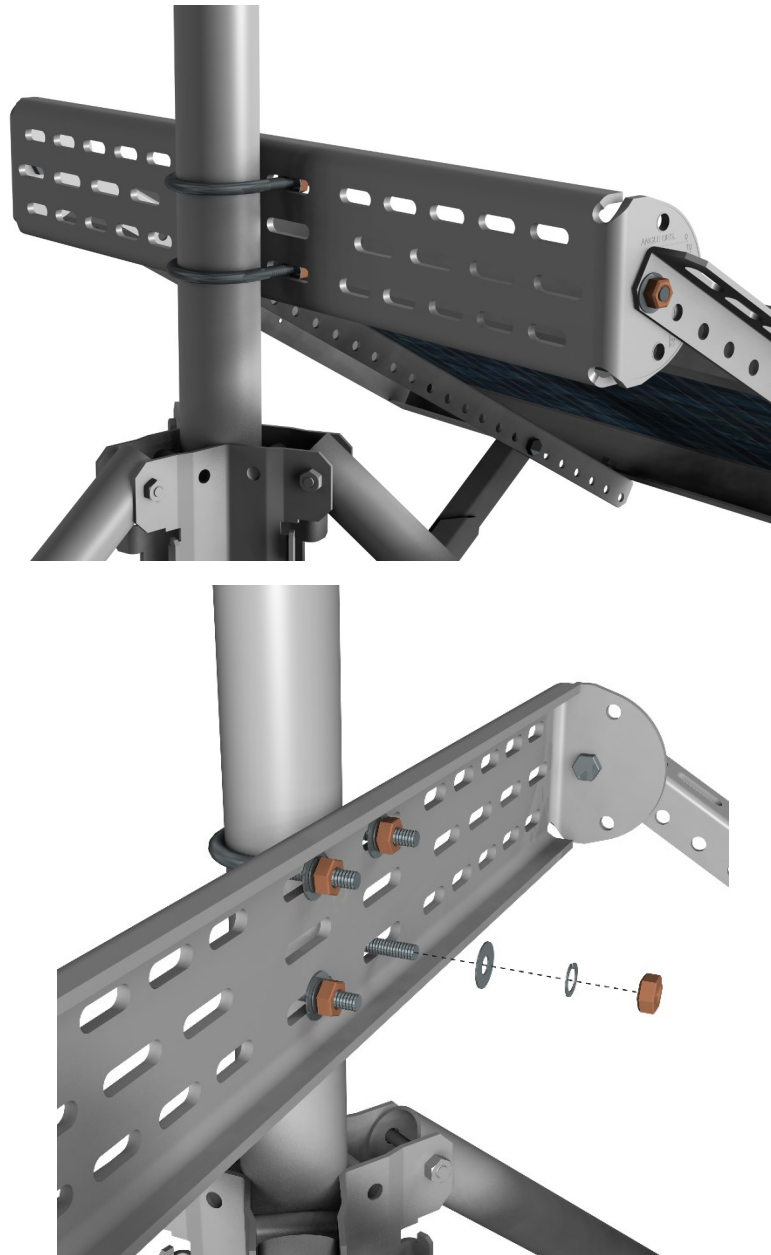

FIGURE 3-5. Attaching the upper mount bracket to the mast
6. (If mounting the solar panel on a tower, go to step 8.) With the help of a second person, hold the upper bracket against the tripod mast (FIGURE 3-5 (p. 8)). Use U-bolts, washers, lock washers, and nuts from the hardware bag labeled 'Tripod' to mount the bracket to the mast. Use a torpedo level to ensure the bracket is level. Fully tighten the nuts on both U-bolts.